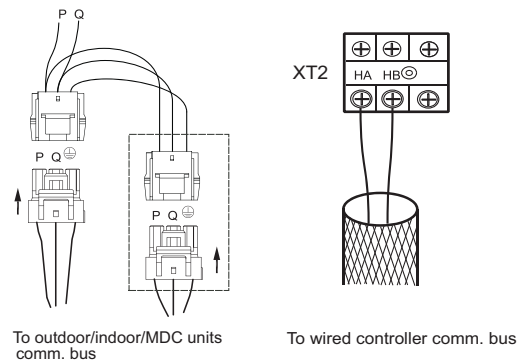

Fig. 24 —Communication Wire Connection
- See Fig. 24 for an example of communication wire connection.